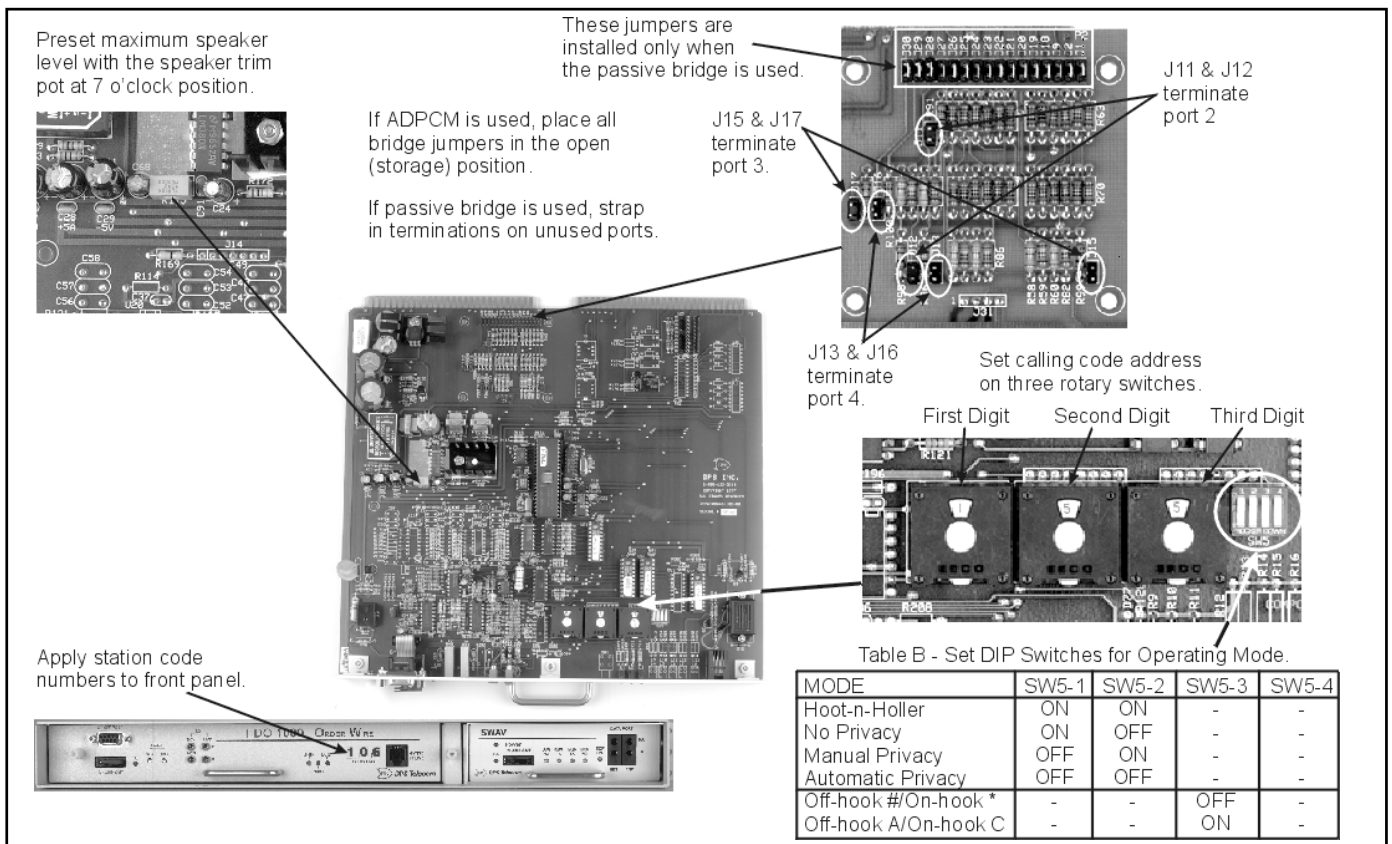

Fig. 19 - Set order-wire options before applying power.
10. Set station number on rotary switches per Fig. 19. Use leading zeroes to set for 1 or 2 digit coding. Refer to Table A for code assignments.
11. Apply station code numbers to front panel per Fig. 19.
12. Set DIP switch for operating mode per Fig. 19. (**Factory default is "automatic privacy."**)
13. Set speaker trim pot per Fig. 19.